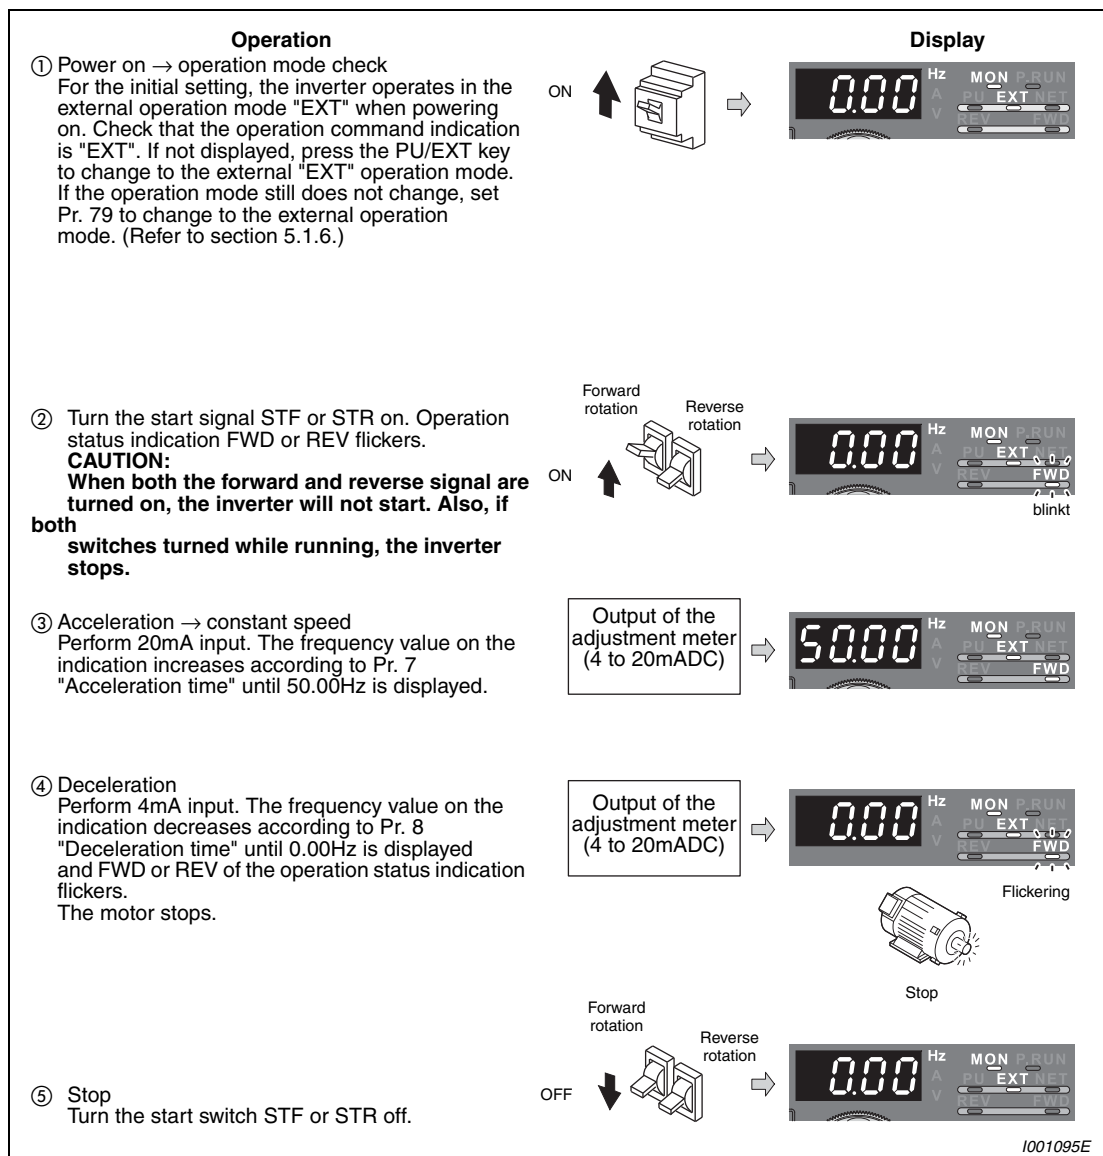

Fig. 5-35: Operate the inverter by using the analog current input
① Turn the digital dial until P.126 (Pr. 126) appears.	 →
② Press the SET key to show the currently set value. The initial value "50.00" (50.00Hz) appears.	 →
③ Turn the digital dial to change the set value to "40.00" (40.00Hz).	 →
④ Press the SET key to set.	 →
⑤ Press the MODE key twice to choose monitor/frequency monitor.	 →
⑥ Turn the start switch STF or STR on to allow 20mA current to flow. (Refer to Fig. 5-35, step ② to ⑤.)